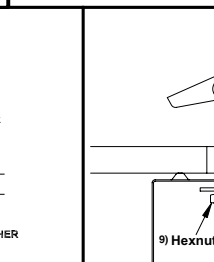

Fig. 8
Screw Toggle Nut onto Threaded Rod about 1/4 inch. Put rod through 11/16" dia. knockout hole. Position Washer (17) and thread Hexnut (9) 1/4" onto end of rod. **DO NOT TIGHTEN ALL THE WAY! See Fig. 8.**
Turn the bolts clockwise while applying downward pressure to fully engage the threads. Then, tighten Hexnuts to secure the housing against the ceiling. **See Fig. 8.**